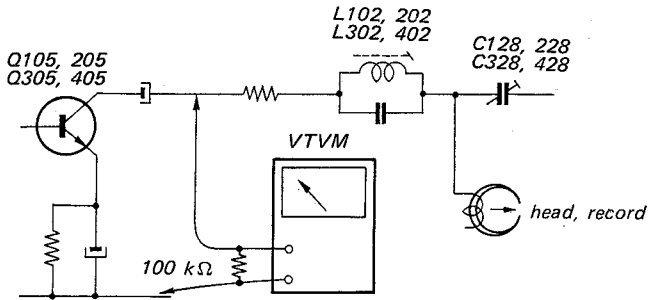

Fig. 9-12 Trap coil adjustment setup
- (1) Connect a VTVM to the check point shown in Fig. 9-12.
- (2) Place the machine in 4-channel stereo record mode.
- (3) Set the MIC and AUX VOLUME control counterclockwise to the full.
- (4) Adjust L102, L202, L302 and L402 to obtain the minimum reading on the VTVM.